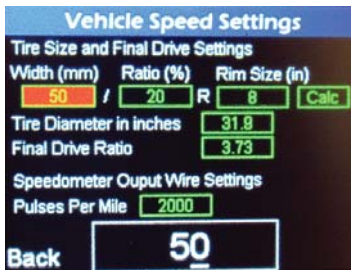

Figure 23
3. To increase/decrease the value use the “UP” and “DOWN” arrow buttons (Figure 23) .